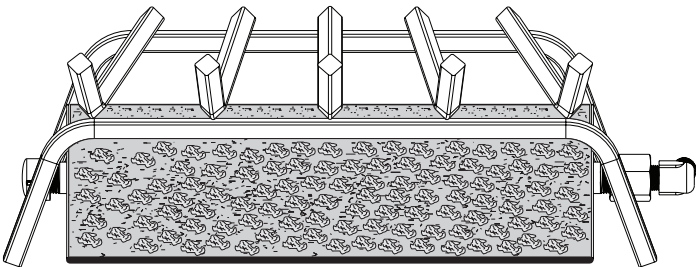

Figure 6
2. Spread the Glowing Embers and Rockwool Mix over the bottom portion of the burner. **See Figure 6.**